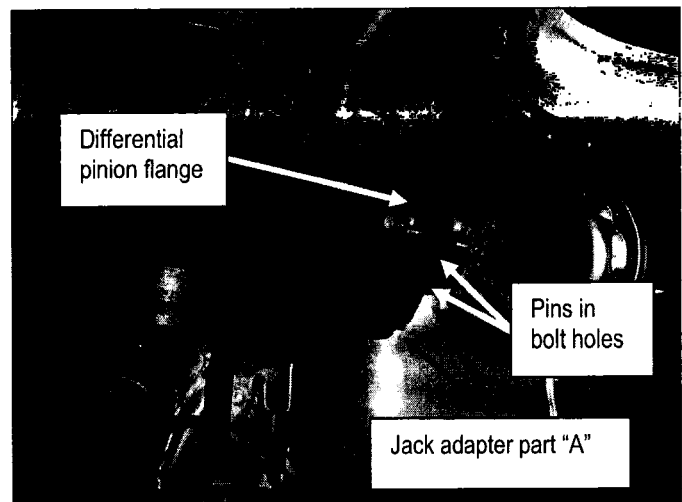

Figure 62
- a. Install part "A" of the adapter tool onto the pinion flange. Make sure both pins on the tool are inserted into the pinion flange bolt holes (see Figure 62).